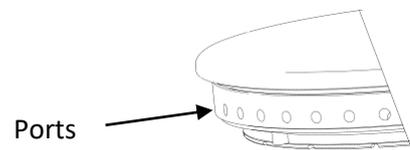

Figure 9
- Thoroughly clean with soap and water. Ensure all burner ports are clean and free from food or cleaning material debris. (Fig 9)